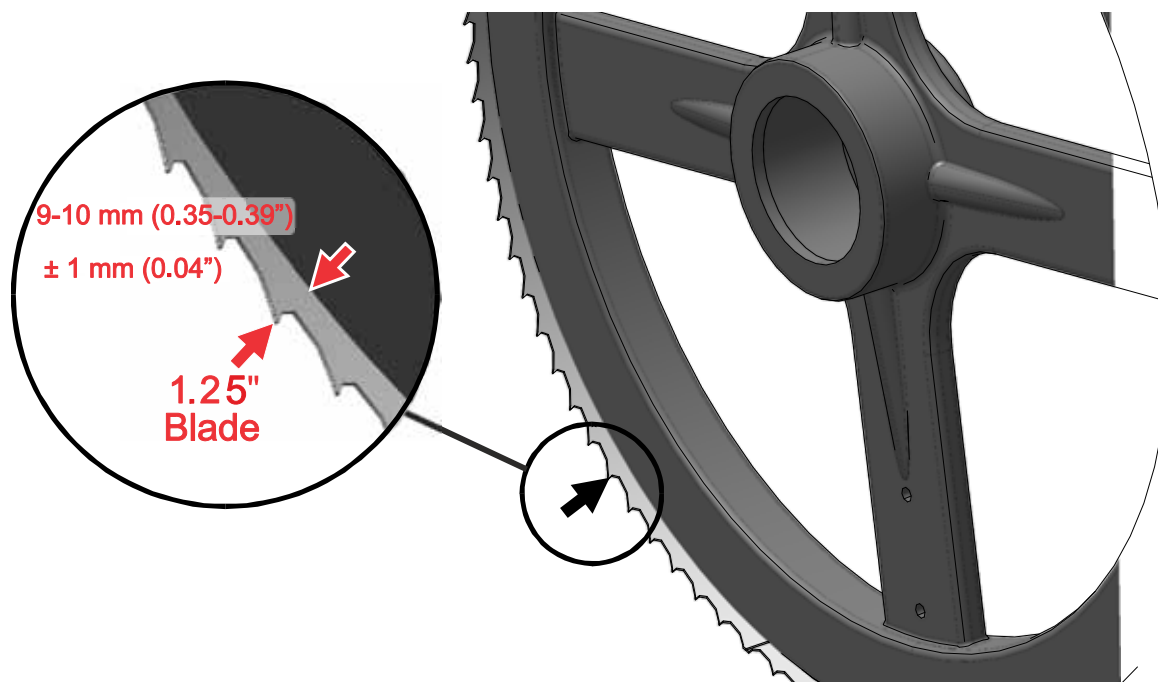

FIG. 3-2
**See Figure 3-2.** Position 1 1/4" (32 mm) wide blades on the blade wheels so the blade teeth are 9 -10 mm ( $\pm 1$  mm) out from the edge of the wheel. Make sure the rear edge of the blade is lying flat on the wheels and is no more than 3 mm out from the edges of the blade wheel belts.